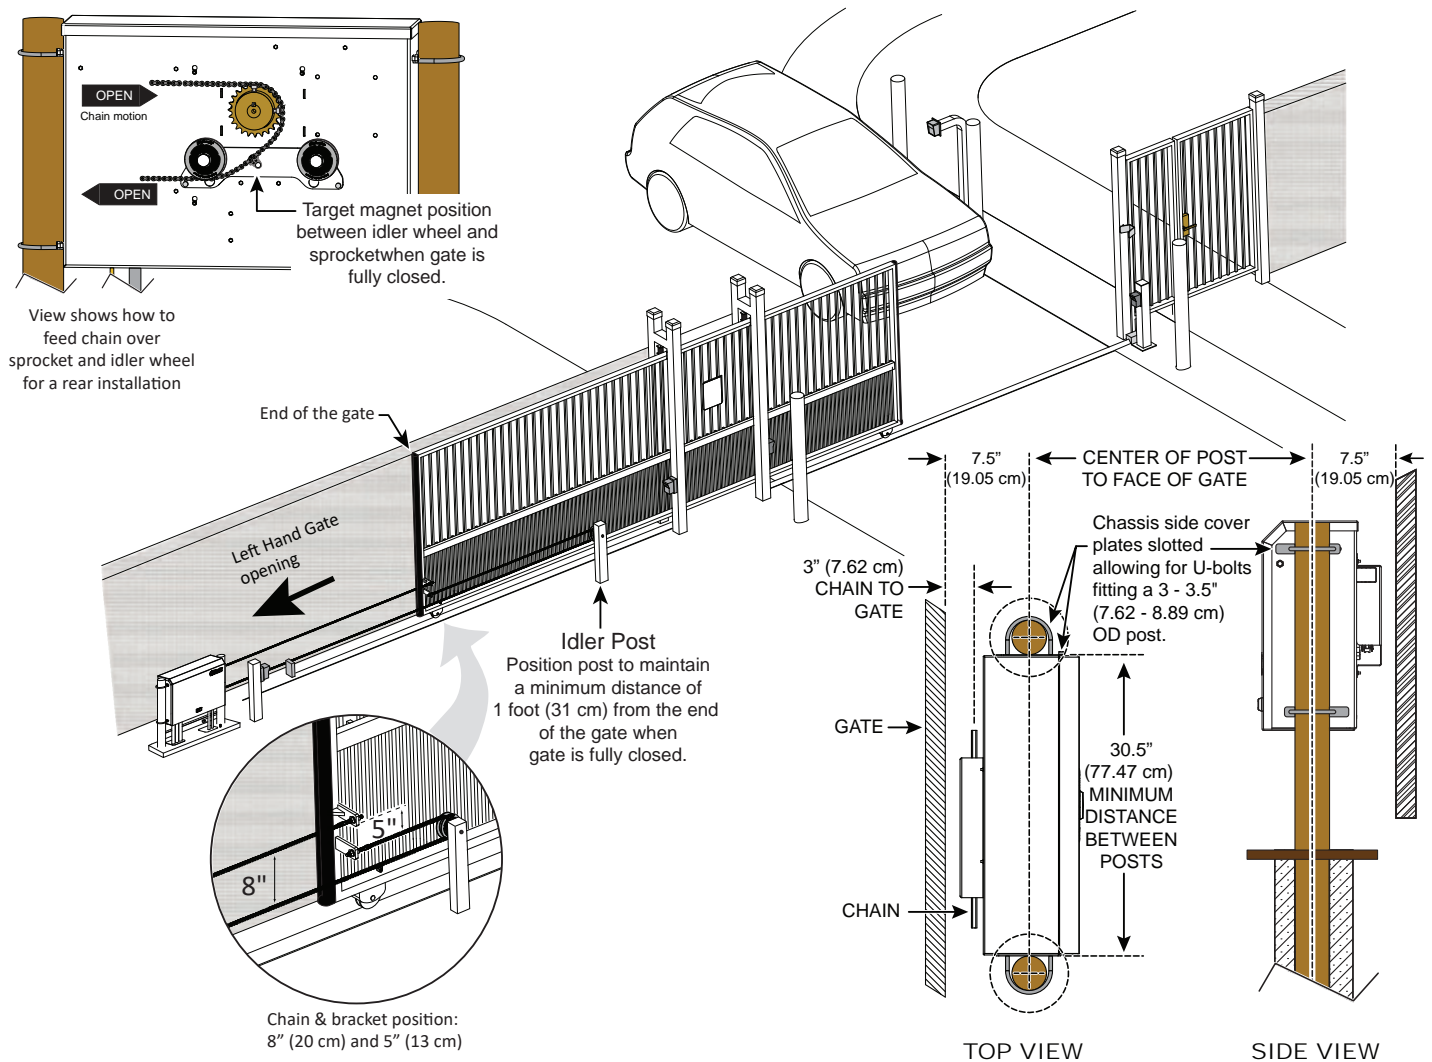

Figure 6. Rear Installation
A rear installation requires additional idler wheels and gate brackets, but it provides aesthetics as the chain is not visible along the gate. See Figure 6.
2. For a rear installation, see Figure 6.